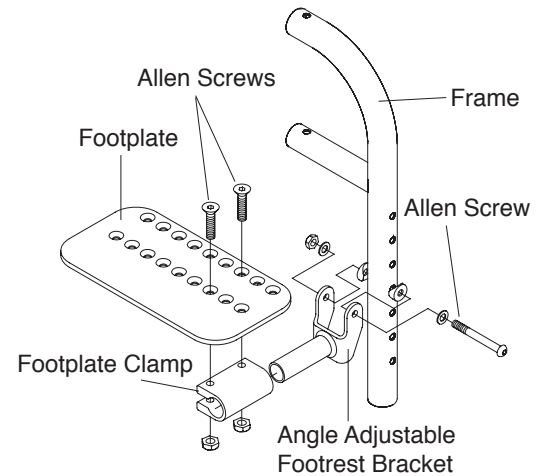

Figure 13
1. Remove the Allen Screw that secures the angle adjustable footrest bracket to the frame. See Figure 13. Make sure to note the order in which you remove the various washers and nuts when removing the Allen Screw.
1. Loosen the two Allen Screws and locknuts that secure the footplate to the footplate clamp. See Figure 13.